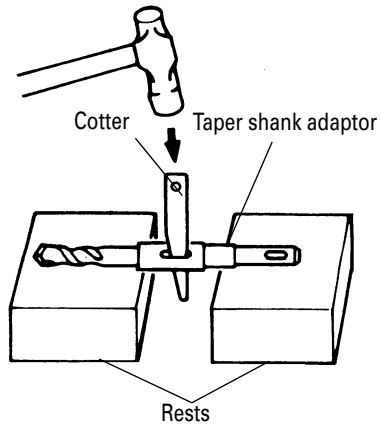

Fig. 25
- (3) Turn the switch ON, and drill a hole in prescribed depth.
- (4) To remove the drill bit (taper shank), insert the cotter into the slot of the taper shank adaptor and strike the head of the cotter with a hammer supporting on the rests. (Fig. 25)